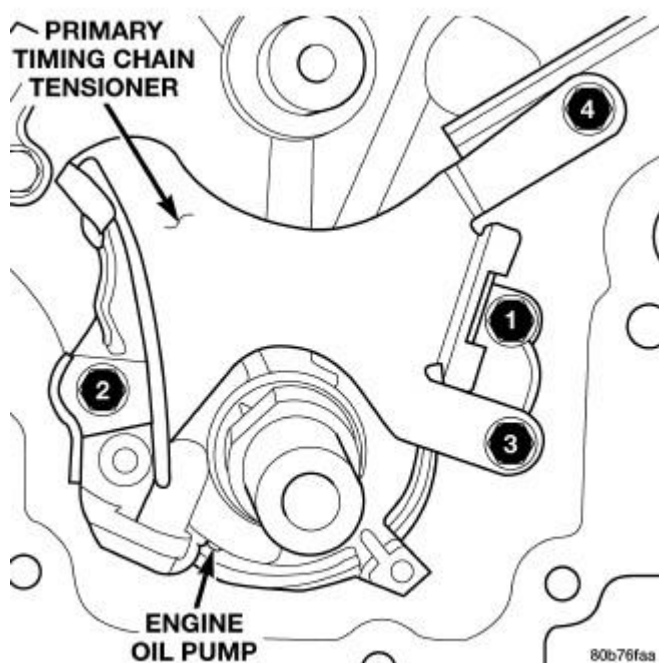

Fig. 235: Oil Pump And Primary Timing Chain Tensioner Tightening Sequence
3. Tighten the oil pump and primary timing chain tensioner retaining bolts to 28 N.m (250 in. lbs.) in the sequence shown in **Fig. 235**.